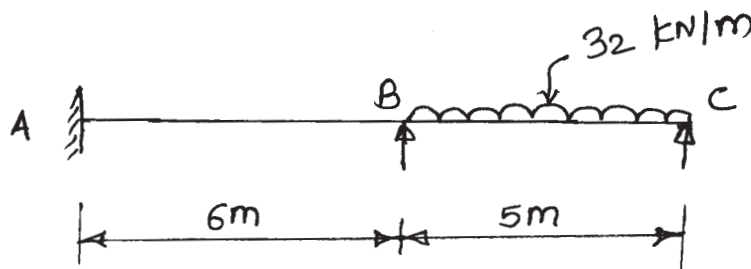

Fig. No. 4
- c) A continuous beam ABC is fixed at A and supported at B and C such that $AB = 6 \text{ m}$, $BC = 5 \text{ m}$, BC carries a udl of 32 kN/m. Calculate support moments using Clapeyron's theorem and draw B.M. diagram Figure No. 4